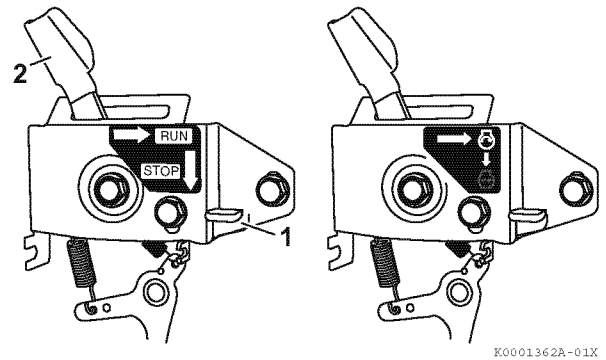

Figure 19
2. If your engine speed control is similar to **Figure 19** press the STOP button (1, **Figure 19**) and the engine speed control lever (2, **Figure 19**) will automatically return to the STOP position.